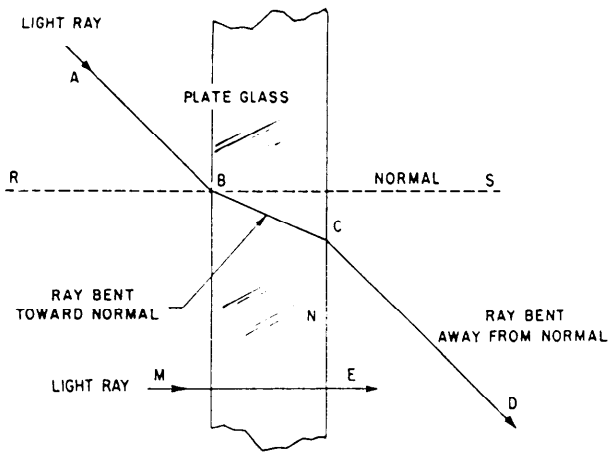

Figure 1-8.—The law of refraction.
Refraction is shown in figure 1-8. The ray of light (AB) strikes the glass at an oblique angle. Since the glass is denser than air, the ray of light is bent toward the normal (RS) and emerges from the glass at (C). Upon entering the air again, the ray is bent away from normal (RS) and travels along the path (CD).